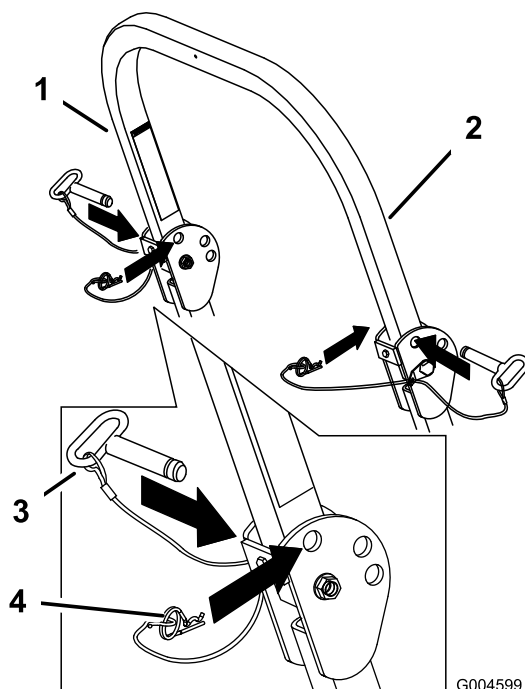

Figure 6
1. To lower the roll bar, remove the hairpin cotter pins and remove the two pins (Figure 6).
3. Install the two pins and secure them with the hairpin cotter pins (Figure 6).
4. To raise the roll bar, remove the hairpin cotter pins and remove the two pins (Figure 6).
5. Raise the roll bar to the upright position and install the two pins and secure them with the hairpin cotter pins (Figure 6).